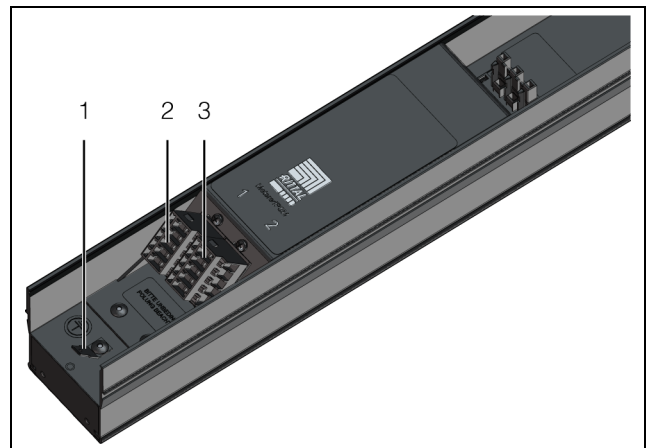

Fig. 3: Connections
- Connect the housing earthing point (fig. 3, item 1) of the PSM metering bar in the infeed conducting with the enclosure frame.
- Connect a connection cable to the "Infeed 1" connection (fig. 3, item 2) or to the "Infeed 2" connection (fig. 3, item 3) of the PSM metering bar and to the power supply.